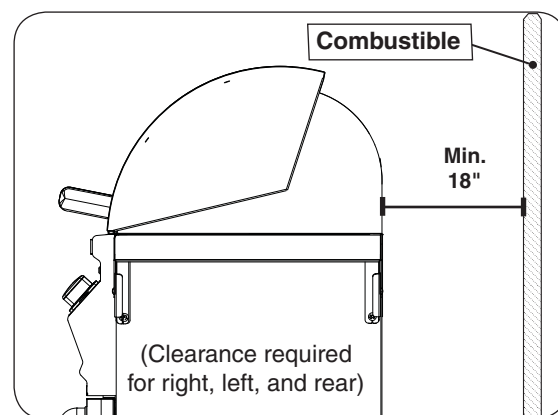

Fig. 9-1 Clearance 'A' Diagram
- The grill must have a minimum of 18" right, left, and rear clearance from any combustible wall (see Fig. 9-1).